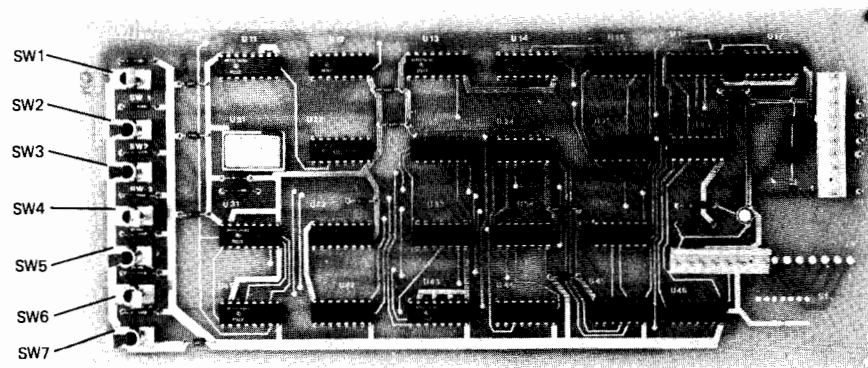

Figure 6-10. Video Generator
**CONTROLS** ..... Displays are produceable using the Video Generator (figure 6-10) and the switch positions listed in table 6-3.